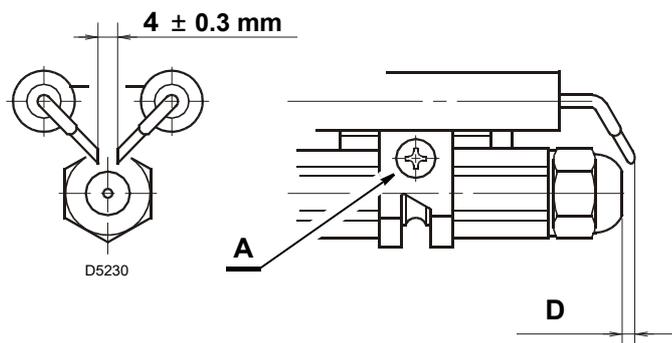

Fig. 20
- Remove the electrodes assembly 5) from the nozzle holder 4) after loosing its fixing screw (A, Fig. 20).
Before removing or assembling the nozzle, loosen the screw (A, Fig. 20) and move the electrodes ahead.